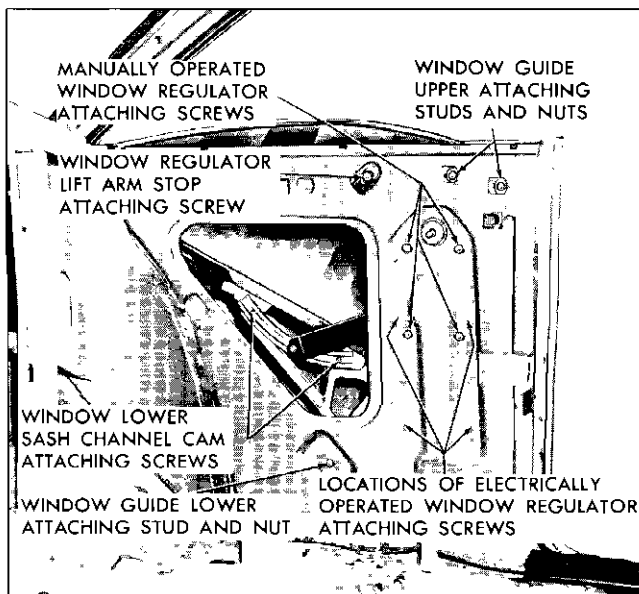

Fig. 3-5 Rear Quarter Hardware—37 Styles
3. With the rear quarter window in the down position remove the lower sash channel cam attaching screws (Fig. 3-5). Detach cam from roller on regulator arm and remove cam.
4. Loosen rear quarter window front guide attaching screws (Fig. 3-5).
2. To adjust the window fore or aft, loosen the front guide attaching stud nuts (Fig. 3-5). Move the window and guides fore or aft as required; then tighten the front guide attaching stud nuts.
3. To adjust the rear quarter window in or out, loosen the window front guide upper attaching stud nuts (Fig. 3-5). Adjust the studs in or out as required; then tighten stud nuts.
4. To limit the forward and upward travel of the rear quarter window, adjust the regulator lift arm stop (Fig. 3-5) as required.
3. Remove window lower sash channel cam attaching screws (Fig. 3-5). Detach cam from roller on regulator lift arm and remove cam.
4. Remove front guide upper and lower attaching stud nuts (Fig. 3-5). Disengage guide cams from rollers on window lower sash channel frame; then remove guide from between quarter panels.
5. Remove rear quarter window regulator attaching screws (Fig. 3-5); then remove regulator assembly through large access hole.
2. With window in up position remove the window front guide upper and lower attaching stud nuts (Fig. 3-5).